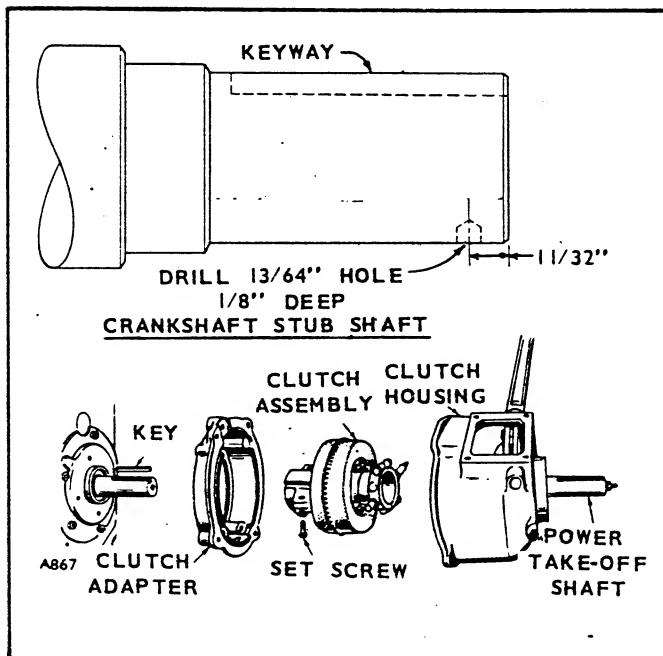

FIGURE 4. CLUTCH INSTALLATION
**Clutch Installation:** A Rockford Clutch can be installed at the factory or in the field. Install the clutch according to the following instructions and Figure 4.